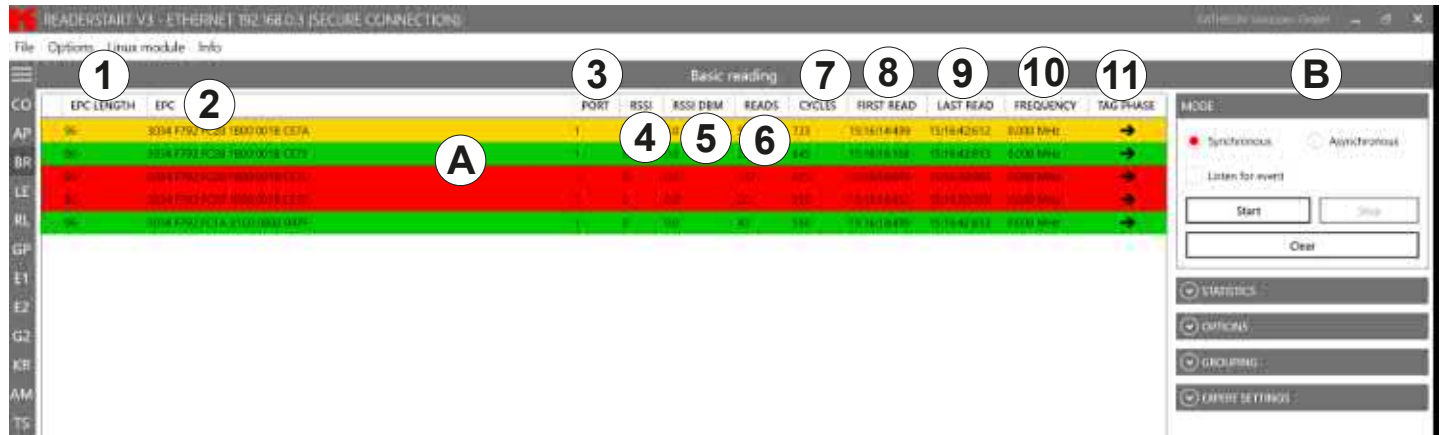
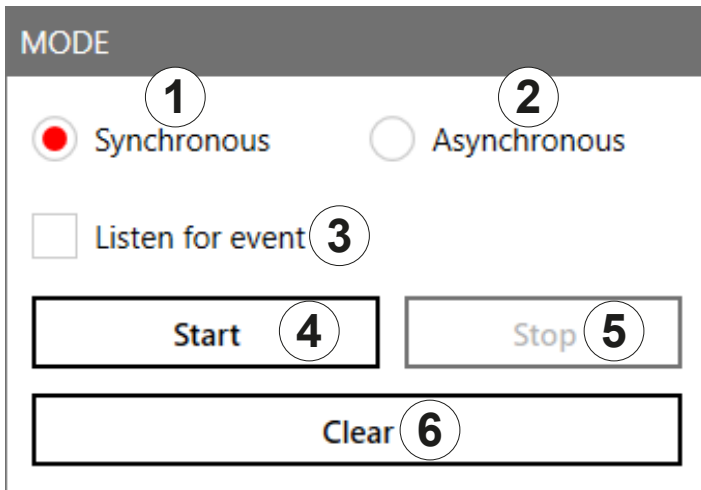

Fig. 41: Basic reading
Fig. 42: Basic reading: mode
- ▶ Click **Start** (④ in Fig. 42) to start the reading.
- ▶ Click **Stop** (⑤) to stop the reading.
- ▶ Click **Clear** (⑥) to remove all tag entries from the table (Ⓐ in Fig. 41, p. 81).